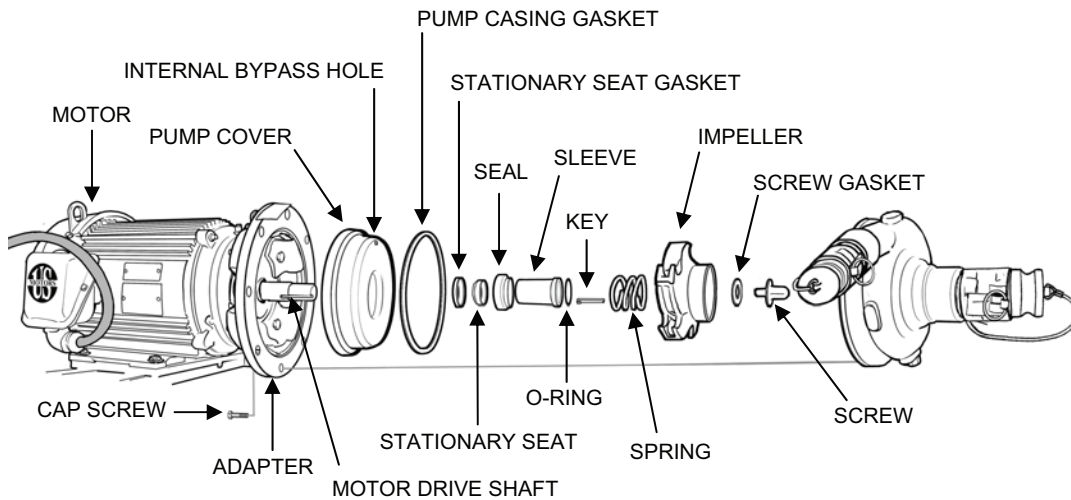

Figure 15. Seal Kit and Shaft Sleeve Installation.
4. Install a new seal kit (seal, stationary seat, seat gasket, and spring) and shaft sleeve as follows (see Figure 15):
6. Reinstall the pump casing as follows (see Figure 15):
- c. Place the new pump casing onto the pump cover, apply sealing compound (WP 0038, Table 1, item 40) to the eight cap screws and secure the pump casing with the screws.